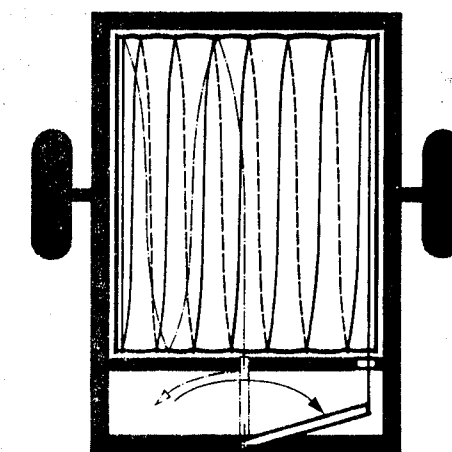

Fig. 15
- 1.5. Let rope 3 slowly go back, so that the twine wraps itself in 6 - 10 helical turns around the bale (fig. 15).